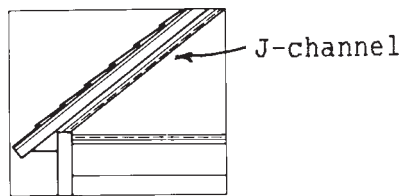

FIG. 17 Installation on Gable
9.3.8 At a gable, install J-channel along the rake boards. (See Fig. 17.) Lap the channels if necessary by cutting 1 in. (25.4 mm) off the end leaving only the face and then lap 3/4 in. (19 mm). Miter the ends that meet at the peak to make a neat joint. (See Note 5.) Lock each pre-cut siding panel into the siding panel below and slide it into J-channel allowing 1/4-in. (6.4-mm) expansion gap between the end of the siding and back of the J-channel. The panel for the top of the gable may be face nailed. Drill a hole the